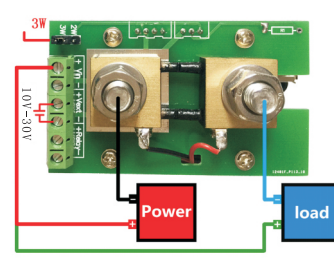

Figure 2 Three-wire wiring diagram relay is not connected
- Check the wiring is in accordance with wiring diagram shown in Figure 2. The positive terminal of VIN + and the load are connected to the positive terminal of the power supply; the negative terminal of the power supply is connected to the left large screw on the measuring board, and the negative terminal of the load is connected to the right large screw, at